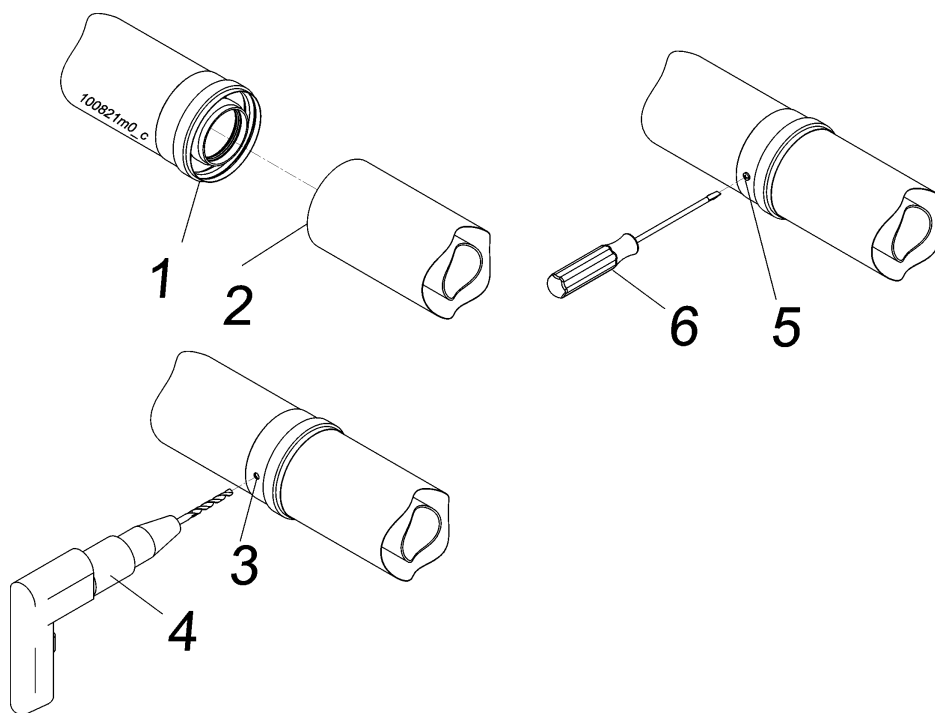

Figure 30 - Secure fixing extensions and elbows together
The boiler is not supplied with the fittings needed for connecting a coaxial vent/combustion air system. A special kit must be ordered to connect the boiler with the Coaxial polypropylene vent. Figure 30 shows how to install the Coaxial fitting above the boiler:
1. slip-fit the extension "1" and "2" (see figure 30) together;
2. drill a suitable hole "3" with a drill "4" (see figure 30) in a position where the two pipes "1" and "2" are overlapped;